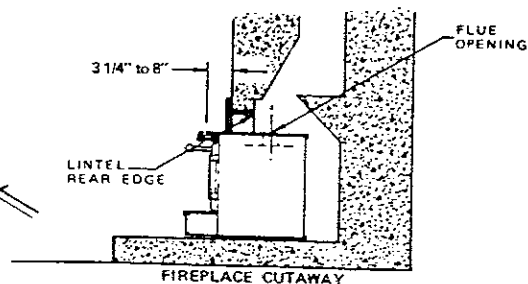

FIG. 14
IMPORTANT: (Fig. 14)
1. Slide the heater into the fireplace to the depth desired within the limits of installation. Fig. 14